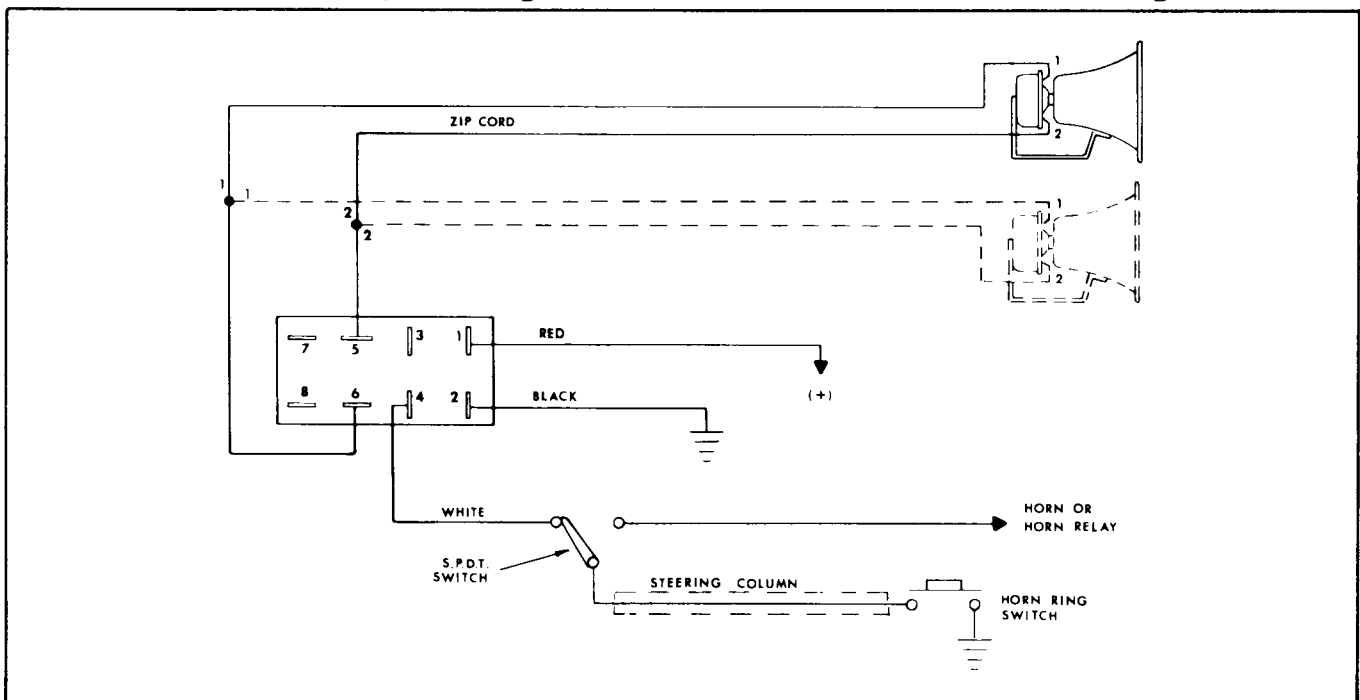
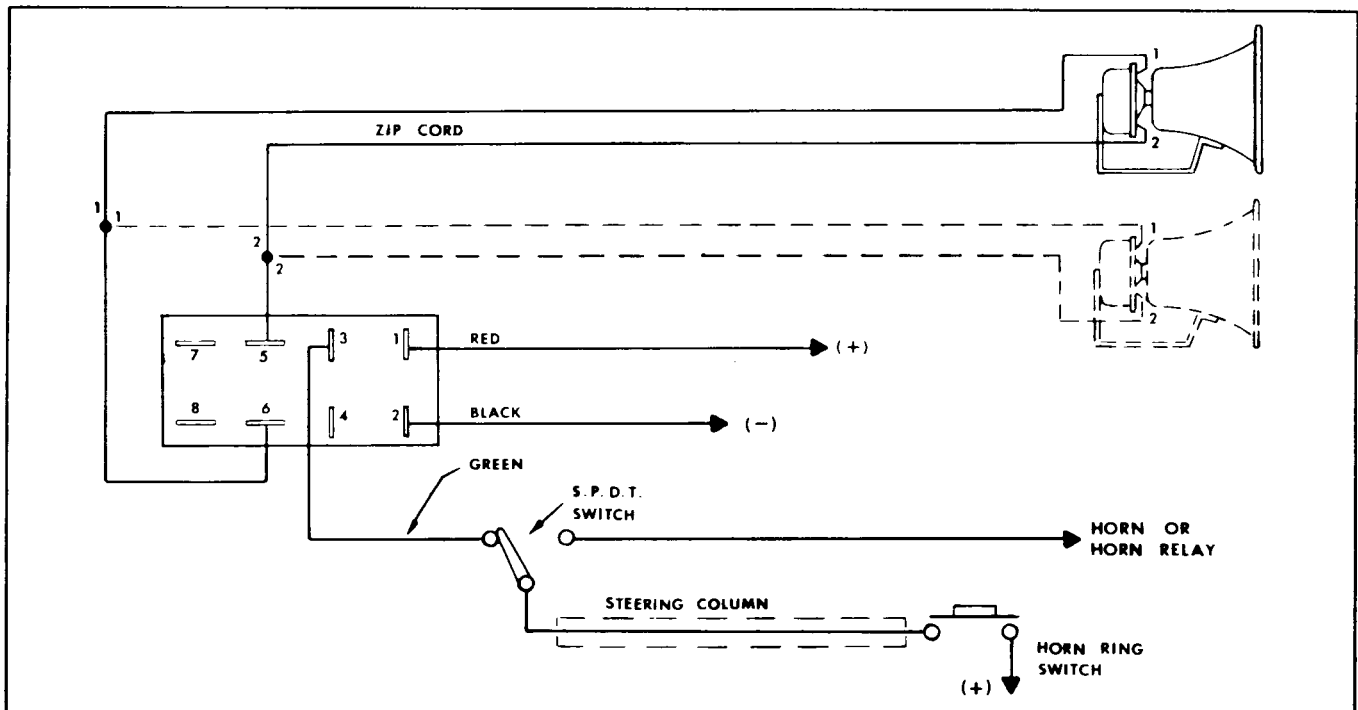

Figure 6. Power Cable Connections — Horn Ring Control (negative ground vehicle with grounded horn ring).
Figure 7. Power Cable Connections — Horn Ring Control (positive ground vehicle with grounded horn ring or negative ground vehicle with ungrounded horn ring).
Connect the red lead (P3, pin 1) to the positive (hot) side of the battery terminal or ignition switch. Connect the black lead (P3, pin 2) to the vehicle frame (see figure 6). When making connections directly to the battery terminal, proceed as follows:
Included with the electronic siren is a SPDT switch (toggle switch) which when properly installed, allows the user to activate the siren by depressing the horn button. When installing the horn switch in a vehicle with a negative ground system with a grounded horn ring, connect as shown in figure 6. See figure 7 when installing the horn switch in a positive ground vehicle with a grounded horn ring, or in a negative ground vehicle with an ungrounded horn ring. Locate a convenient mounting position for the toggle switch (supplied) and proceed as follows:
3. Connect the other terminal of the toggle switch to the white lead (P3, pin 4), if the vehicle has a negative ground system with a grounded horn ring (see figure 6). When the vehicle has a positive ground system with a grounded horn ring or a negative ground system with an ungrounded horn ring, connect this terminal of the toggle switch to the green lead (P3, pin 3) (see figure 7).
4. Connect the center terminal of the toggle switch to the horn ring switch as shown in figure 6 or 7.